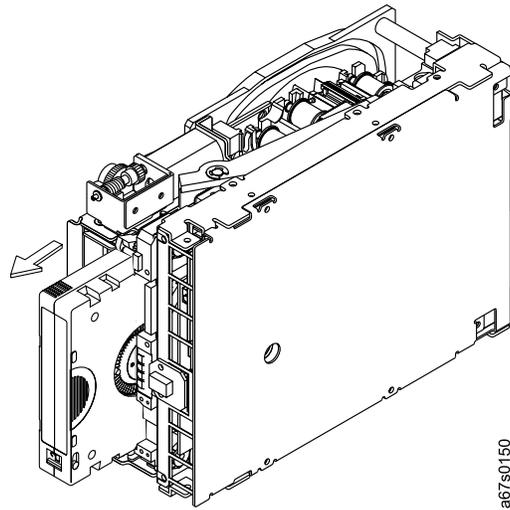

Figure B-9. Rotating the loader motor gear until the cartridge ejects
13. Rotate the loader motor gear counterclockwise until you feel resistance and the cartridge rises and ejects (see Figure B-9).